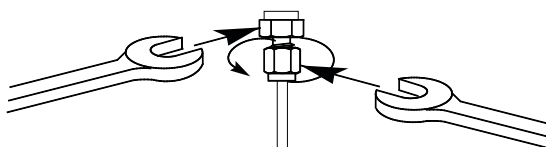

Figure 19. Final tightening
- 8 For 1/8-inch Swagelok fittings, use a pair of 7/16-inch wrenches to tighten the fitting 3/4 of a turn. See **Figure 19**.
For 1/4-inch fittings, use a pair of 9/16-inch wrenches to tighten them 1-1/4 turn, as shown in **Figure 19**.